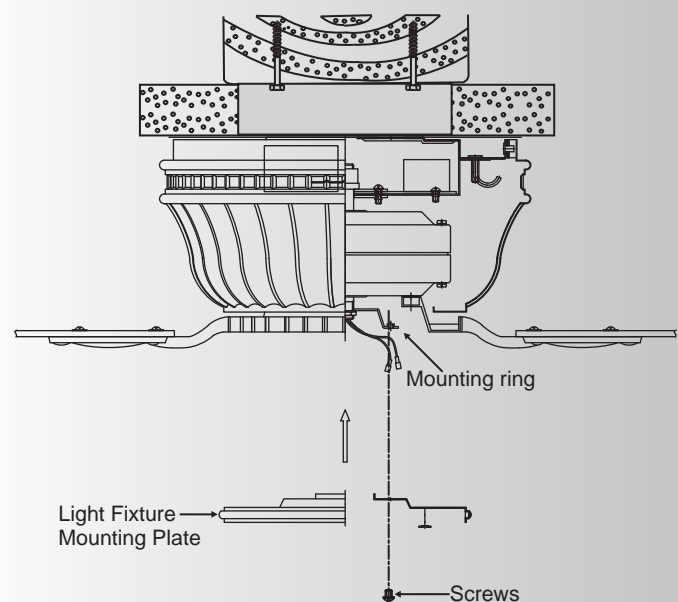

Fig. 13
1. Loosen two screws on the mounting ring attached to the motor shaft and "remove" and save the third screw. (Fig. 13)
2. Place the key holes on the light fixture mounting plate over the 2 screws previously loosened on the mounting ring, turn light fixture mounting plate until it locks in place at the narrow section of the key holes. Secure by tightening the 2 screws previously loosened and the one previously removed. (Fig. 13)